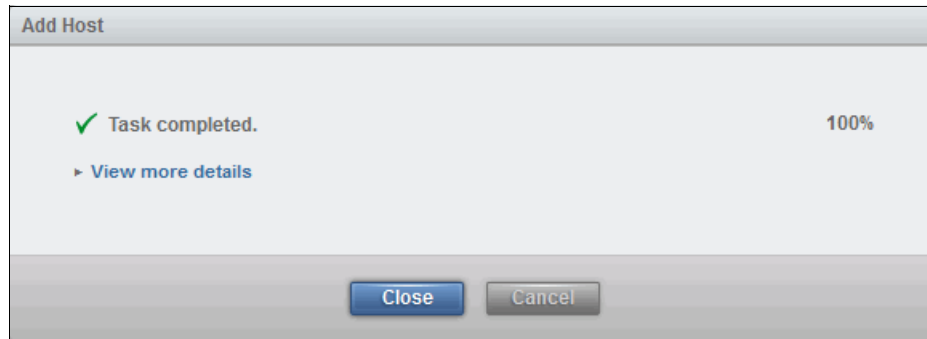

Figure 4-45 Completion of the Add Host wizard
5. Click **Add Host** and the wizard completes, as shown in Figure 4-45.